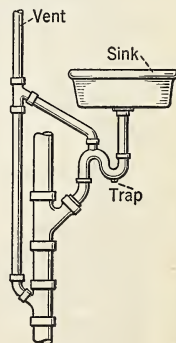

FIG. 119. Trap for sinks.
11. What is the purpose of the trap in a sink? (See Fig. 119.) Is it a siphon? If not, what prevents it from acting as a siphon?